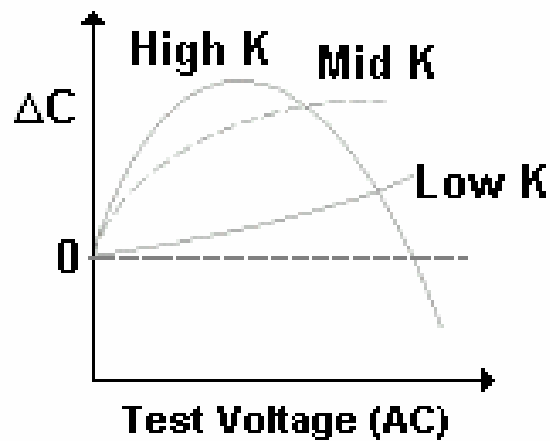

Figure- 12. AC voltage dependency for Ceramic capacitor
The test signal (AC) applied may affect the measuring result for some components. For example, ceramic capacitors are test signal voltage dependent as shown in Figure -12. This dependency varies depending on the dielectric constant (K) of the material used to make the ceramic capacitor.